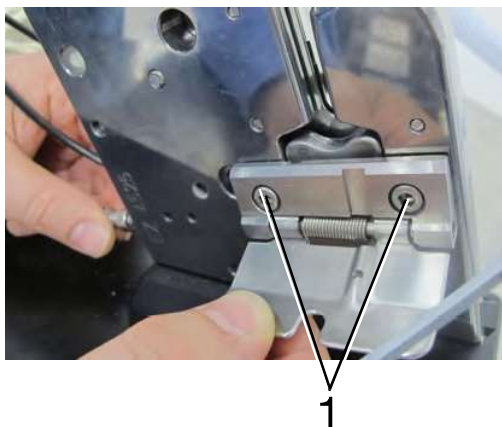

Fig. 7-4 1 Screws
- Unscrew the screws (1, Fig. 7-4) and remove the shutter.
- Screw the shutter back on using the screws (1, Fig. 7-4).